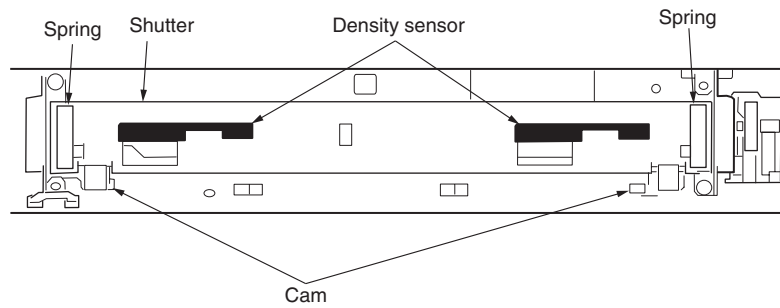

Figure 2-10
1. In the color registration sensor and the density sensor as illustrated in Figure 2-10, the cam rotates with the reverse rotation of the feed motor, causing the shutter of the color registration sensor and the density sensor to open.